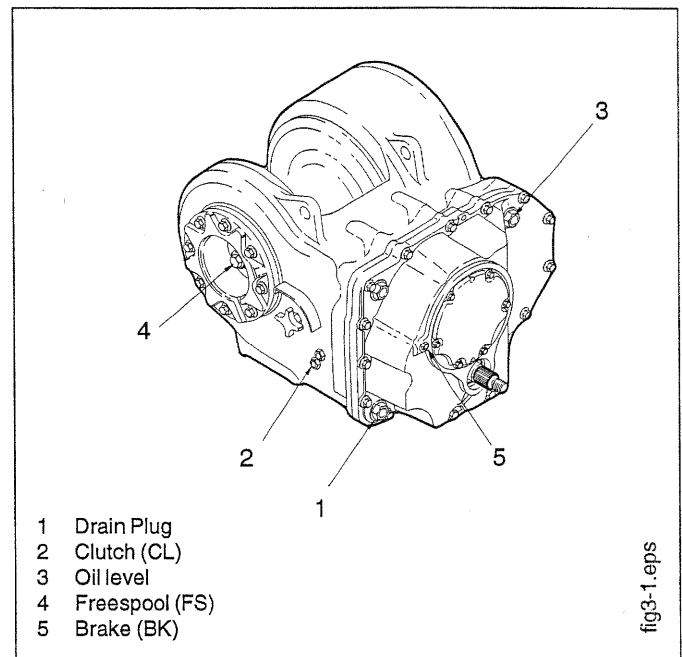

Figure 3-1 Maintenance Points
Pressure check for the line in clutch (CL port, See Fig. 3-1)
Pressure check of the brake (BK port, See Fig. 3-1)
- A. Install a 2000 kpa (300 psi) gauge in check port BK (see fig. 3-1). Run the skidder engine at low idle.